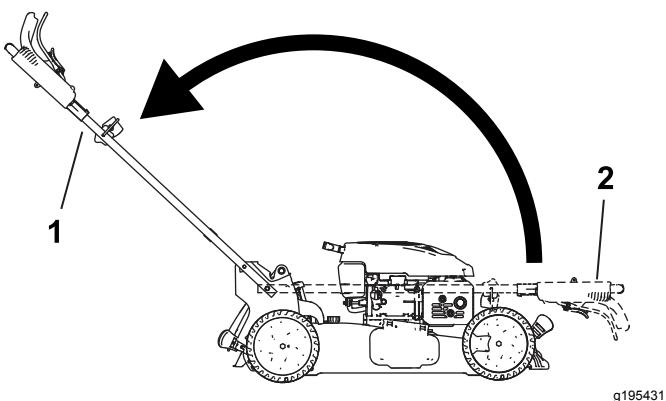

**Figure 27**
1. Remove and save the 2 handle knobs and 2 carriage bolts from the handle brackets (Figure 27).